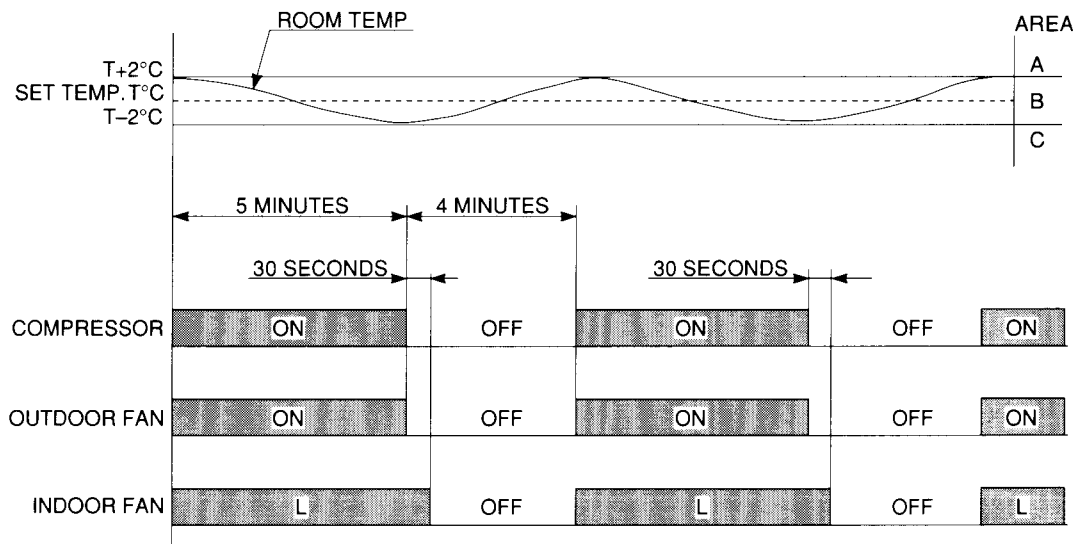

Fig. 24
- B range:** When the room temperature is in this range, the air conditioner automatically repeats the DRY cycle of 5 minutes **ON**, 4 minutes **OFF** – see Fig. 24 for details.